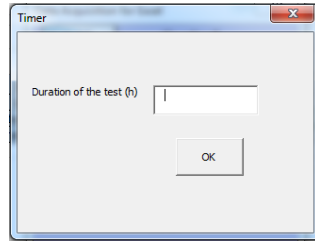

Figure 3.4: QC3 test duration window.
7. Enter one hour as the duration of the test (hours) (Fig. 3.4). Then press *OK*.
11. Leave the system running for one hour as you defined at the beginning in Fig. 3.4. The Excel macro will automatically stop at the end of the test.
7. Enter one hour as the duration of the test (Fig. 3.4). Then press *OK*.
11. Leave the system running for the the duration you defined at the beginning in Fig. 3.4. The Excel macro will automatically stop at the end of the test.